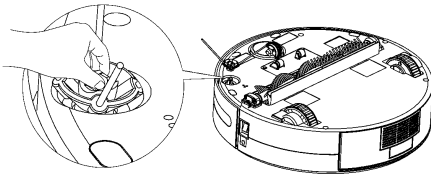

Figure 1
01. Nip the tow fasteners of the side brush with one hand (see Figure 1) and pull the side brush upward with the other hand to take out the side brush.